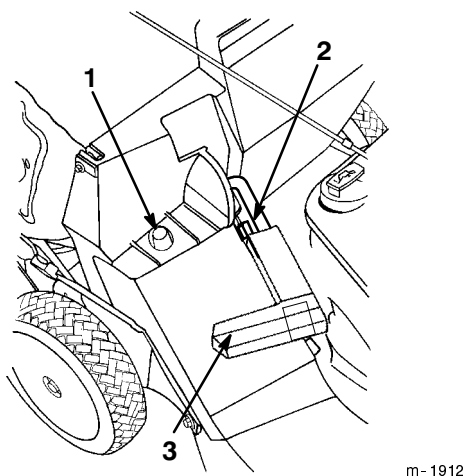

Figure 16
2. Ensure that the discharge door handle is fully forward and that the pin is engaged in the catch (Fig. 16).
3. Slide the hole in the bag frame onto the retaining post on the discharge tunnel (Fig. 16).
2. Raise the discharge door handle and move it forward to engage the pin with the catch (Fig. 16).